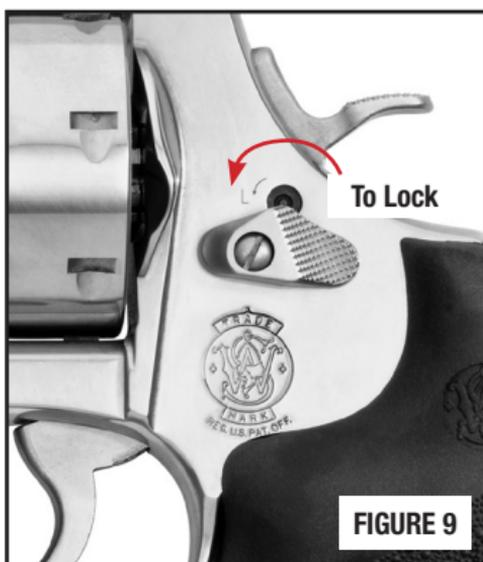

FIGURE 9
- Hold the revolver with the cylinder open in one hand. Insert the key and turn it counter-clockwise using the other hand. The key will turn approximately 90 degrees. The locked indicator flag will become visible on revolvers with exposed hammers. A definite stop and detent will be felt when the key is turned to either the locked or the unlocked position (FIGURE 9).